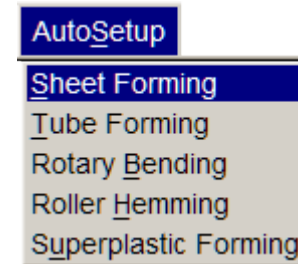

Figure 2
2. Click the menu **AutoSetup/Sheet Forming**. (Figure 2).